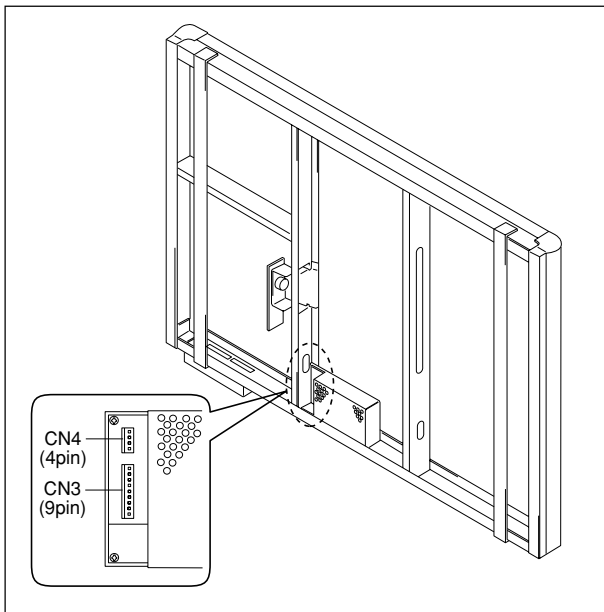

Fig. 7
2. Disconnect the connectors (CN3 and CN9) connected to the Power Unit shown in Fig. 7.